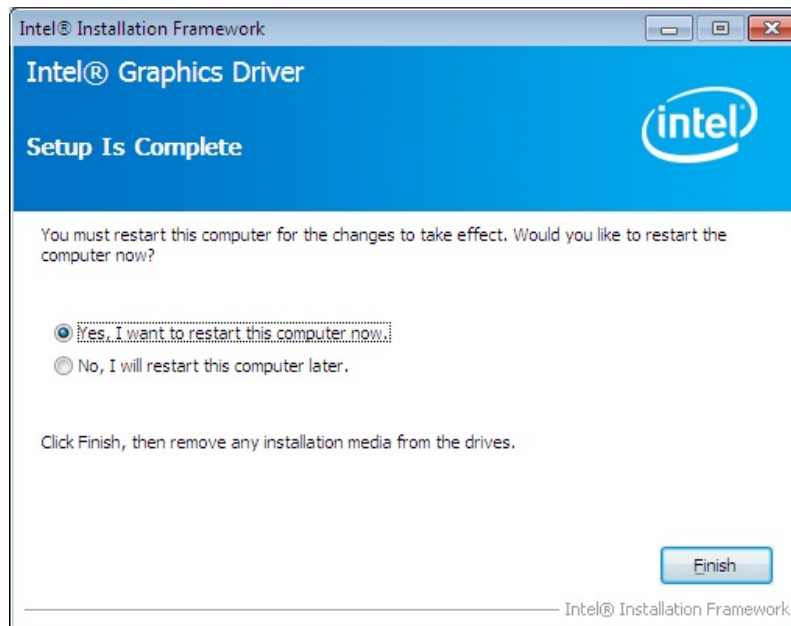

Figure 6-12: Graphics Driver Installation Finish Screen
Step 12: The **Finish** screen in **Figure 6-12** appears.